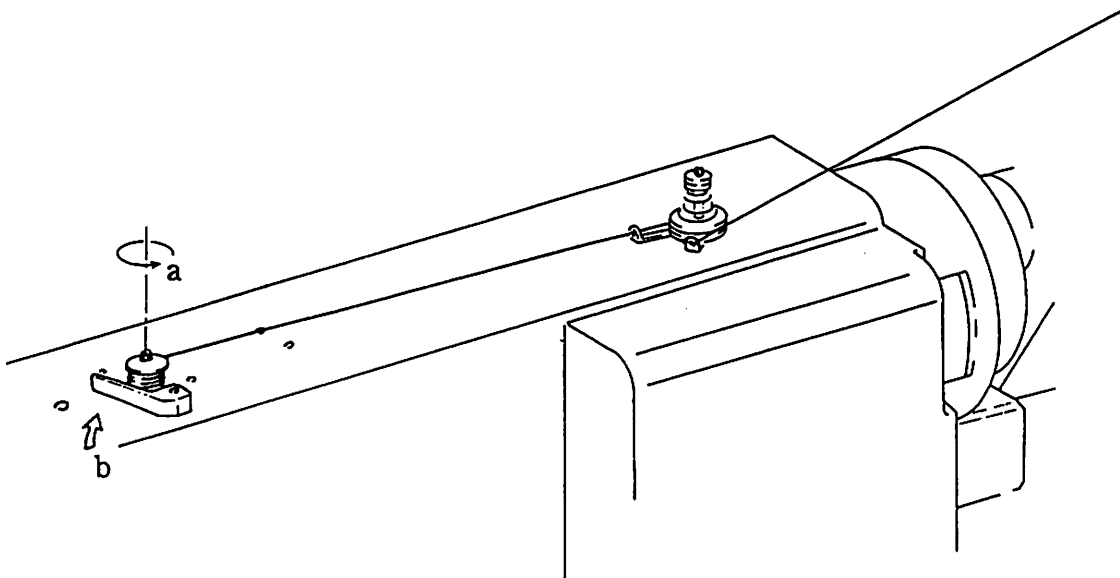

Fig. 7.7
(1) Pass the thread coming from the spool holder base as shown in Fig. 7.7 and wind the end of the thread around the bobbin by several turns in the direction of arrow "a."